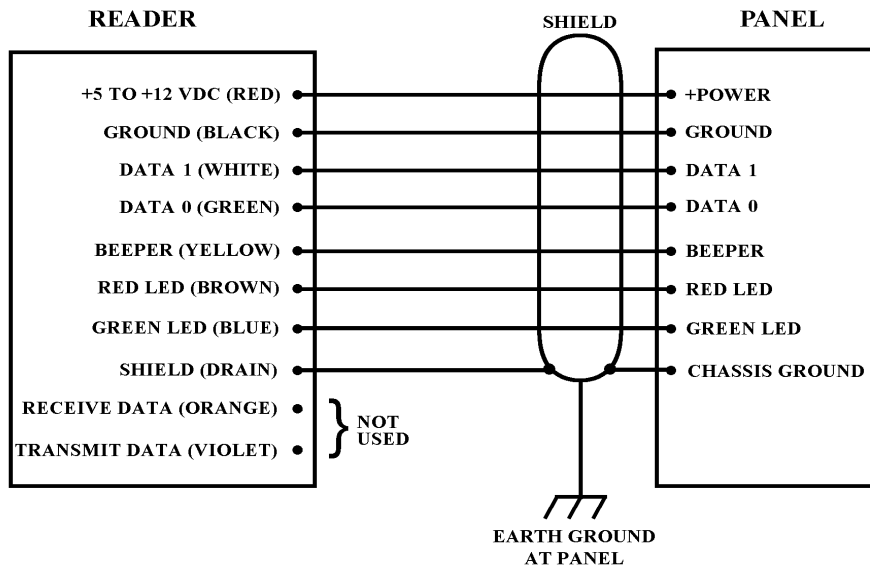

FIGURE 2: Wiring Diagram (Wiegand)
4. Connect the reader's cable to the controller panel as shown in Figure 2. Connect the **blue** wire to the panel's *Green LED* terminal, and the **brown** wire to the *Red LED* terminal. Connect the **yellow** wire only if used for Beeper control by the panel. **Do not connect** the *orange* and *violet* wires. **Tape or cap** all unused wires singly.
Note: The number of conductors depends upon use of the optional beeper control. See Figure 2.